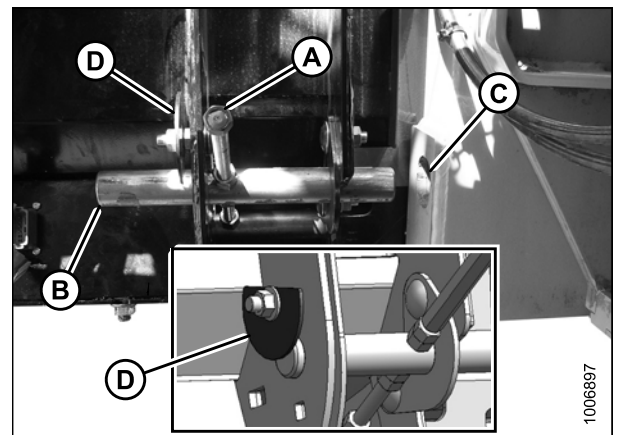

Figure 3.68: Feeder House Lock
- Move support channel (A) according to measurement in Step 7, page 61 to achieve proper alignment of locking pin and feeder house receptacle. Refer to Figure 3.68, page 61.